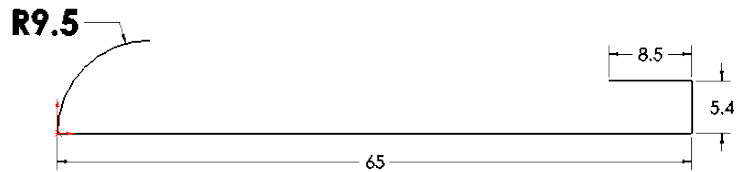

Fig. 5
Step 3. Click **Smart Dimension**  (S) on the Sketch toolbar.
Step 4. Dimension the arc radius **9.5** as shown in **Fig. 5**. To Smart dimension click the arc then move the cursor out away from the arc and click. Key-in the dimension and press ENTER. Arrange the dimension as **Fig. 5**.